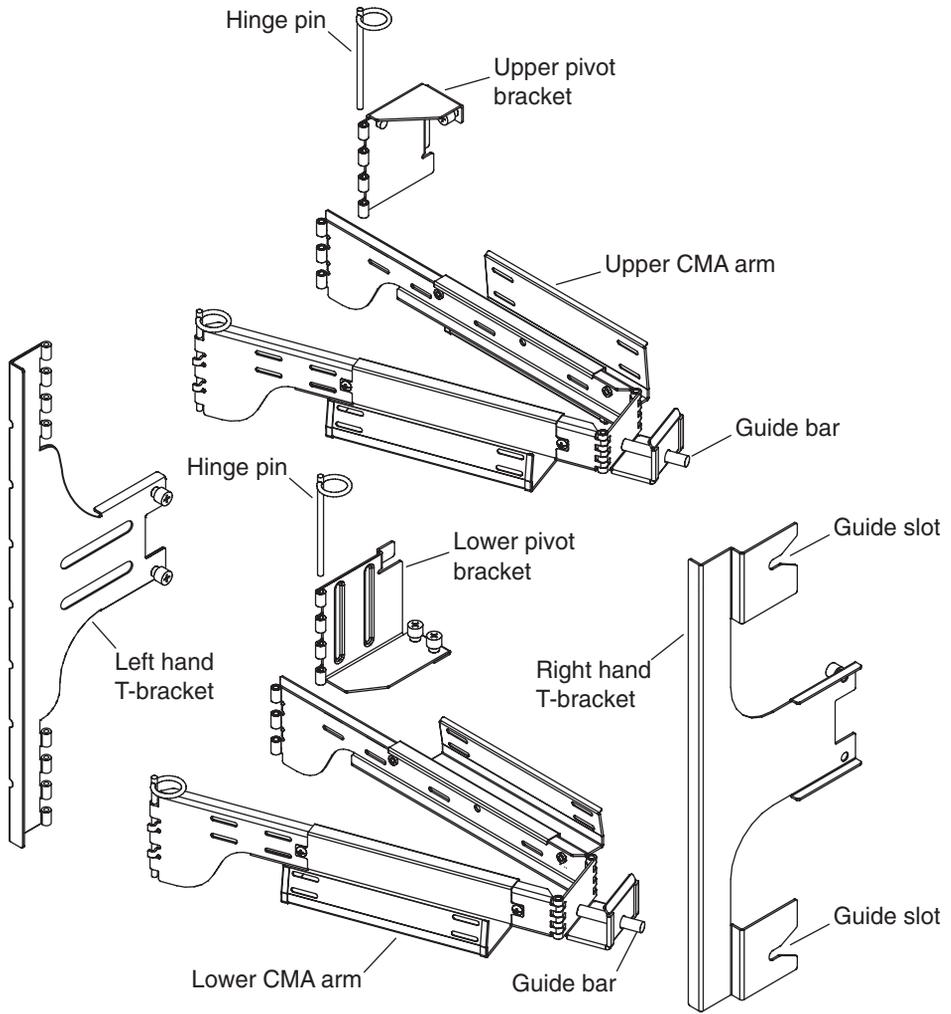

FIGURE 14-3 Upper/Lower CMA Arms and Left Hand/Right Hand T-Brackets
To remove the CMA-800, refer to FIGURE 14-3 for orientation and identification of CMA parts and proceed as follows:
1. Refer to FIGURE 14-3, throughout the following procedures for identification of CMA parts.